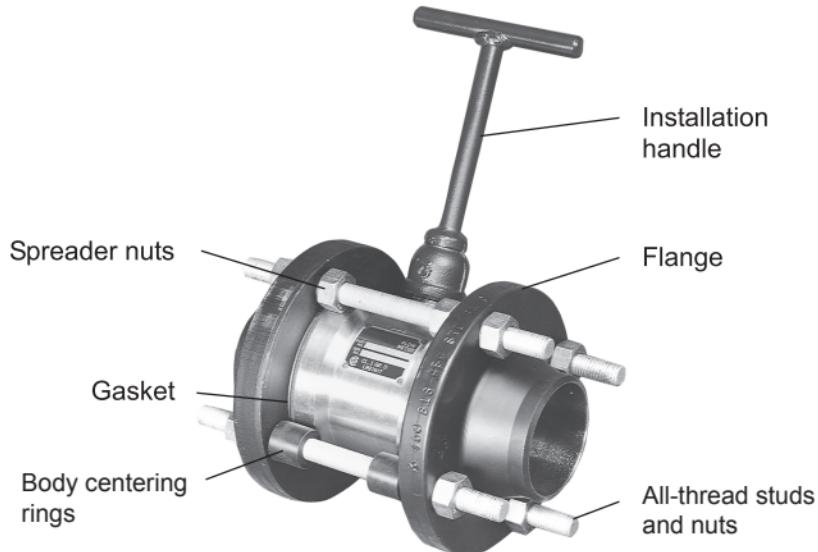

Figure 3—Assembled flowmeter with optional installation handle
An installation handle (Figure 3) is available to allow easier installation and removal (Part No. 9A-100079570). An optional 3/4-in. thin-wall pickup lock-nut socket is also available (Part No. 9A-100013146).
the holes in the bottom half of the flanges (Figure 5, page 13). Install additional nuts inside the flanges, if needed, to separate the flanges while inserting the meter. (See “spreader” nuts in Figure 3, page 8.)
5. Lift the meter from between the pipeline flanges, using an installation handle if necessary (Figure 3, page 8).
1. Return the meter to the line, using the body centering rings (Figure 3, page 8) to align the meter with the inside diameter of the flanges. Carefully align the flange gaskets with the flanges to help prevent gasket damage. Use the spreader nuts, if necessary, to position the meter between the flange gaskets.